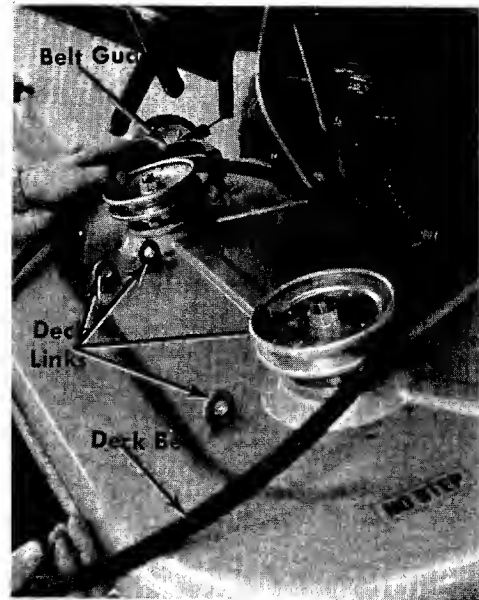

FIGURE 31. DECK LINKS
- Step 6. Remove the front four deck links from the cutting deck. See figure 31.
- Step 7. Remove the belt guards from both deck pulleys. See figure 31.
- Step 7. Tip the deck down as shown in figure 31.